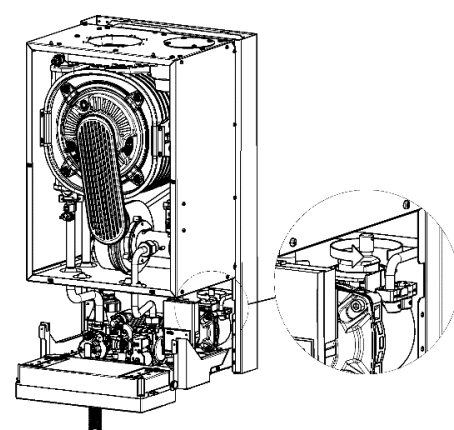

Fig. 3
7. Loosen the stopper on the automatic air-vent of the pump. In order to protect the pressure transducer from water, point the outlet of stopper to the right (fig. 3).